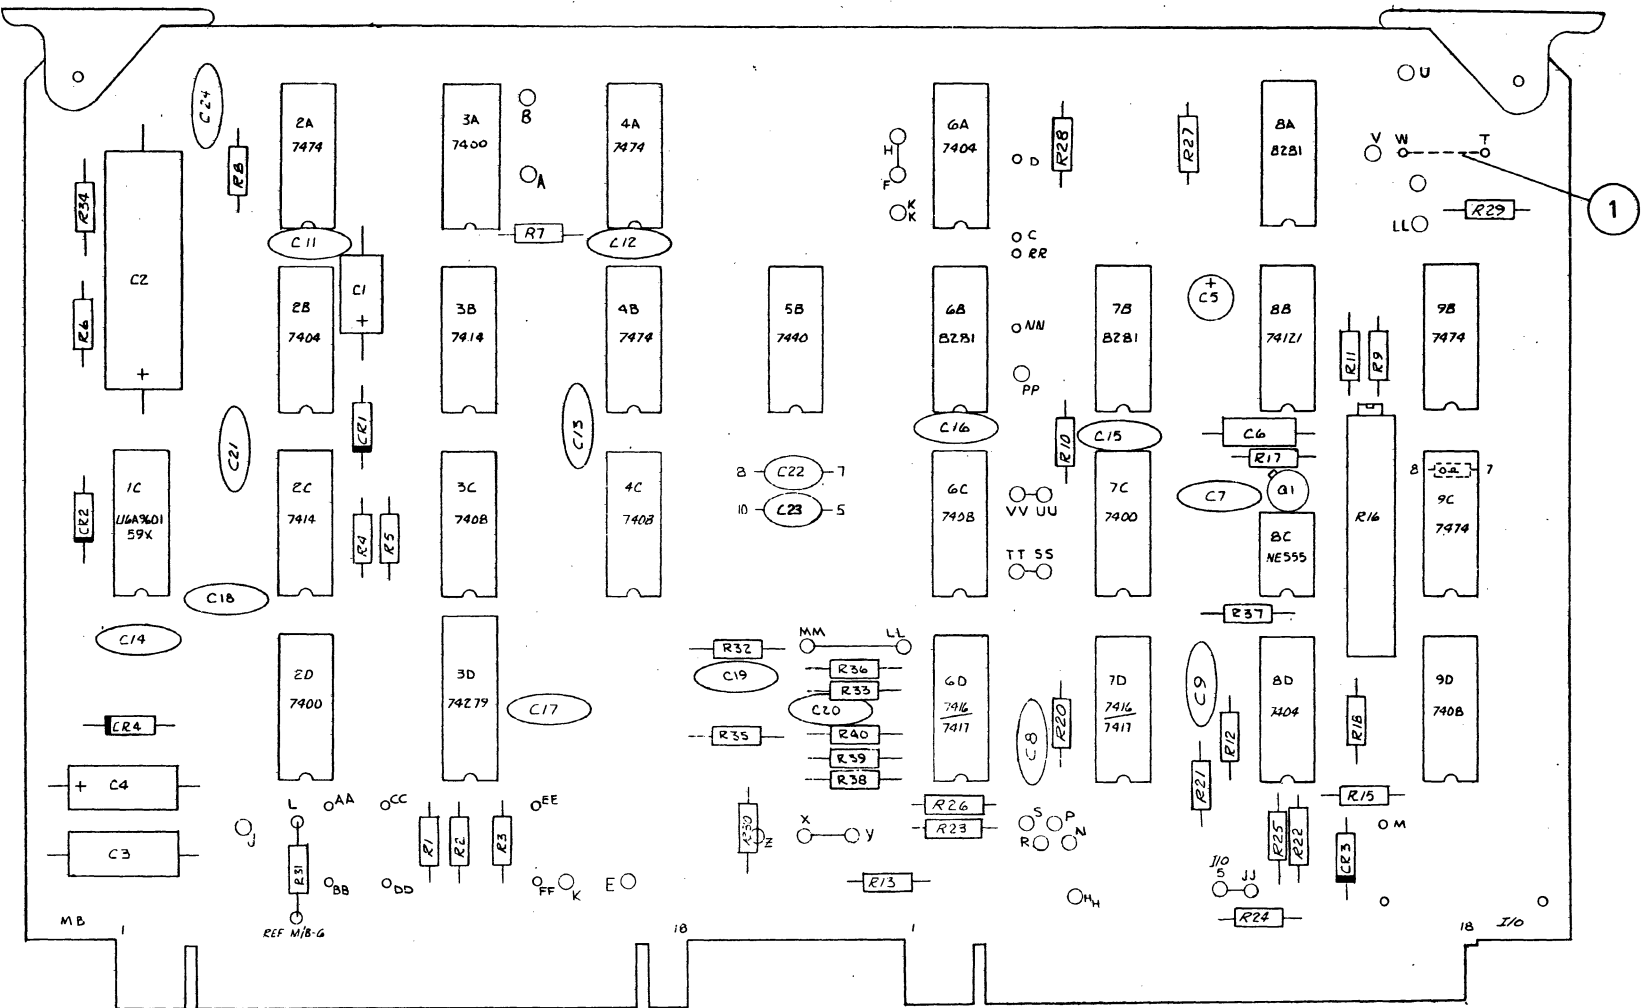

Figure E-7
- c. Cut jumper between T and W on Sequence card (Figure E-7, item 1).